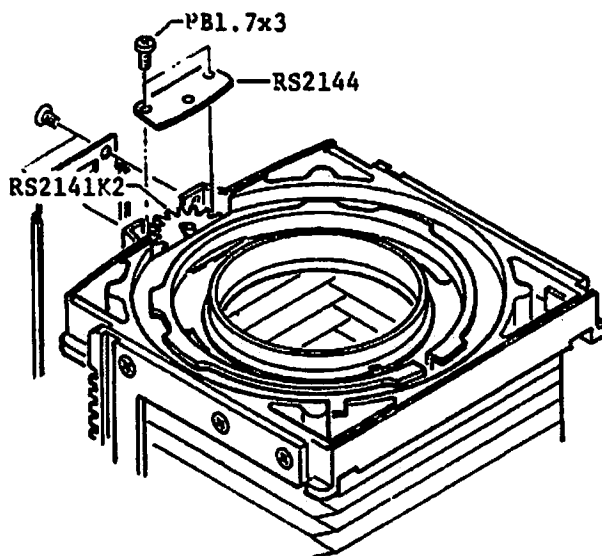

Fig.12
- (2) In case the above method fails to adjust, change the meshing point between the gear of Cocking shaft and Cocking ring by one tooth after removing Catch plate (RS2144) as shown in Fig. 12.